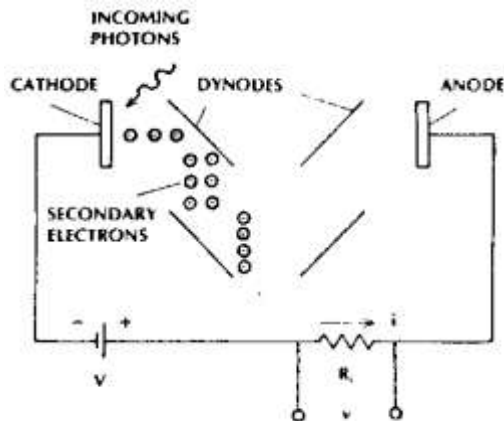

Figure 7-3 Photomultiplier.
- A PMT is represented schematically in Fig. 7-3. Electrons emitted from the cathode are accelerated toward an electrode called a **dynode**.